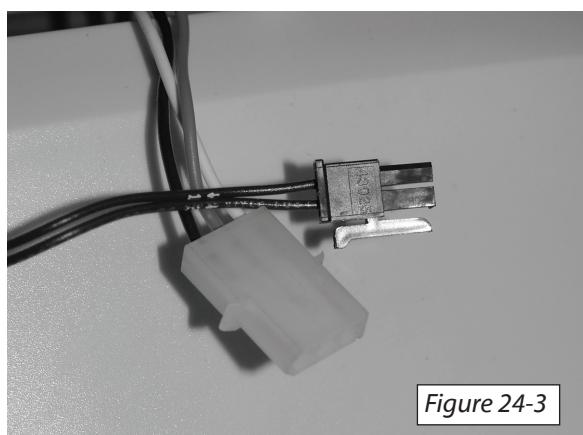

Figure 24-3
6. With the seat in the 90° position, connect the wires from the seat to the corresponding connections on the chassis. [Figure 24-3]